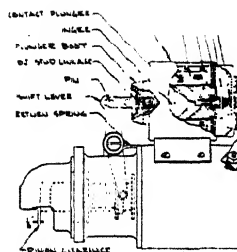

Fig. 6 (Left). PUSH-BUTTON TYPE OF SOLENOID-SWITCH CONTROL
- (1) Push-button on dash (Fig. 6).
The solenoid switch may be controlled by a push-button (Fig. 6).